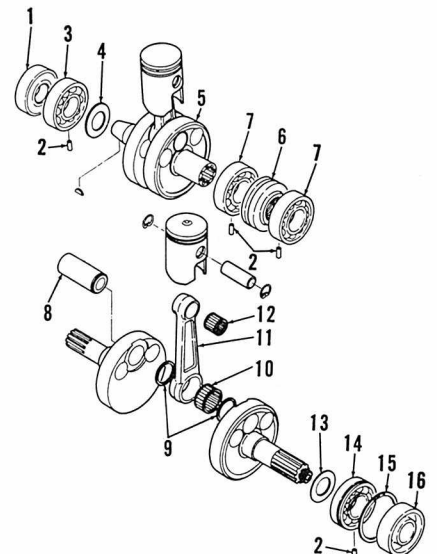

Fig. Y8-14—Exploded view of the crankshaft assembly.
Fig. Y8-16 — When installing crankshaft, make certain that dowels (D) engage holes in all four main bearing outer races. Align open space of snap ring (15—Fig. Y8-14) with oil groove (G).